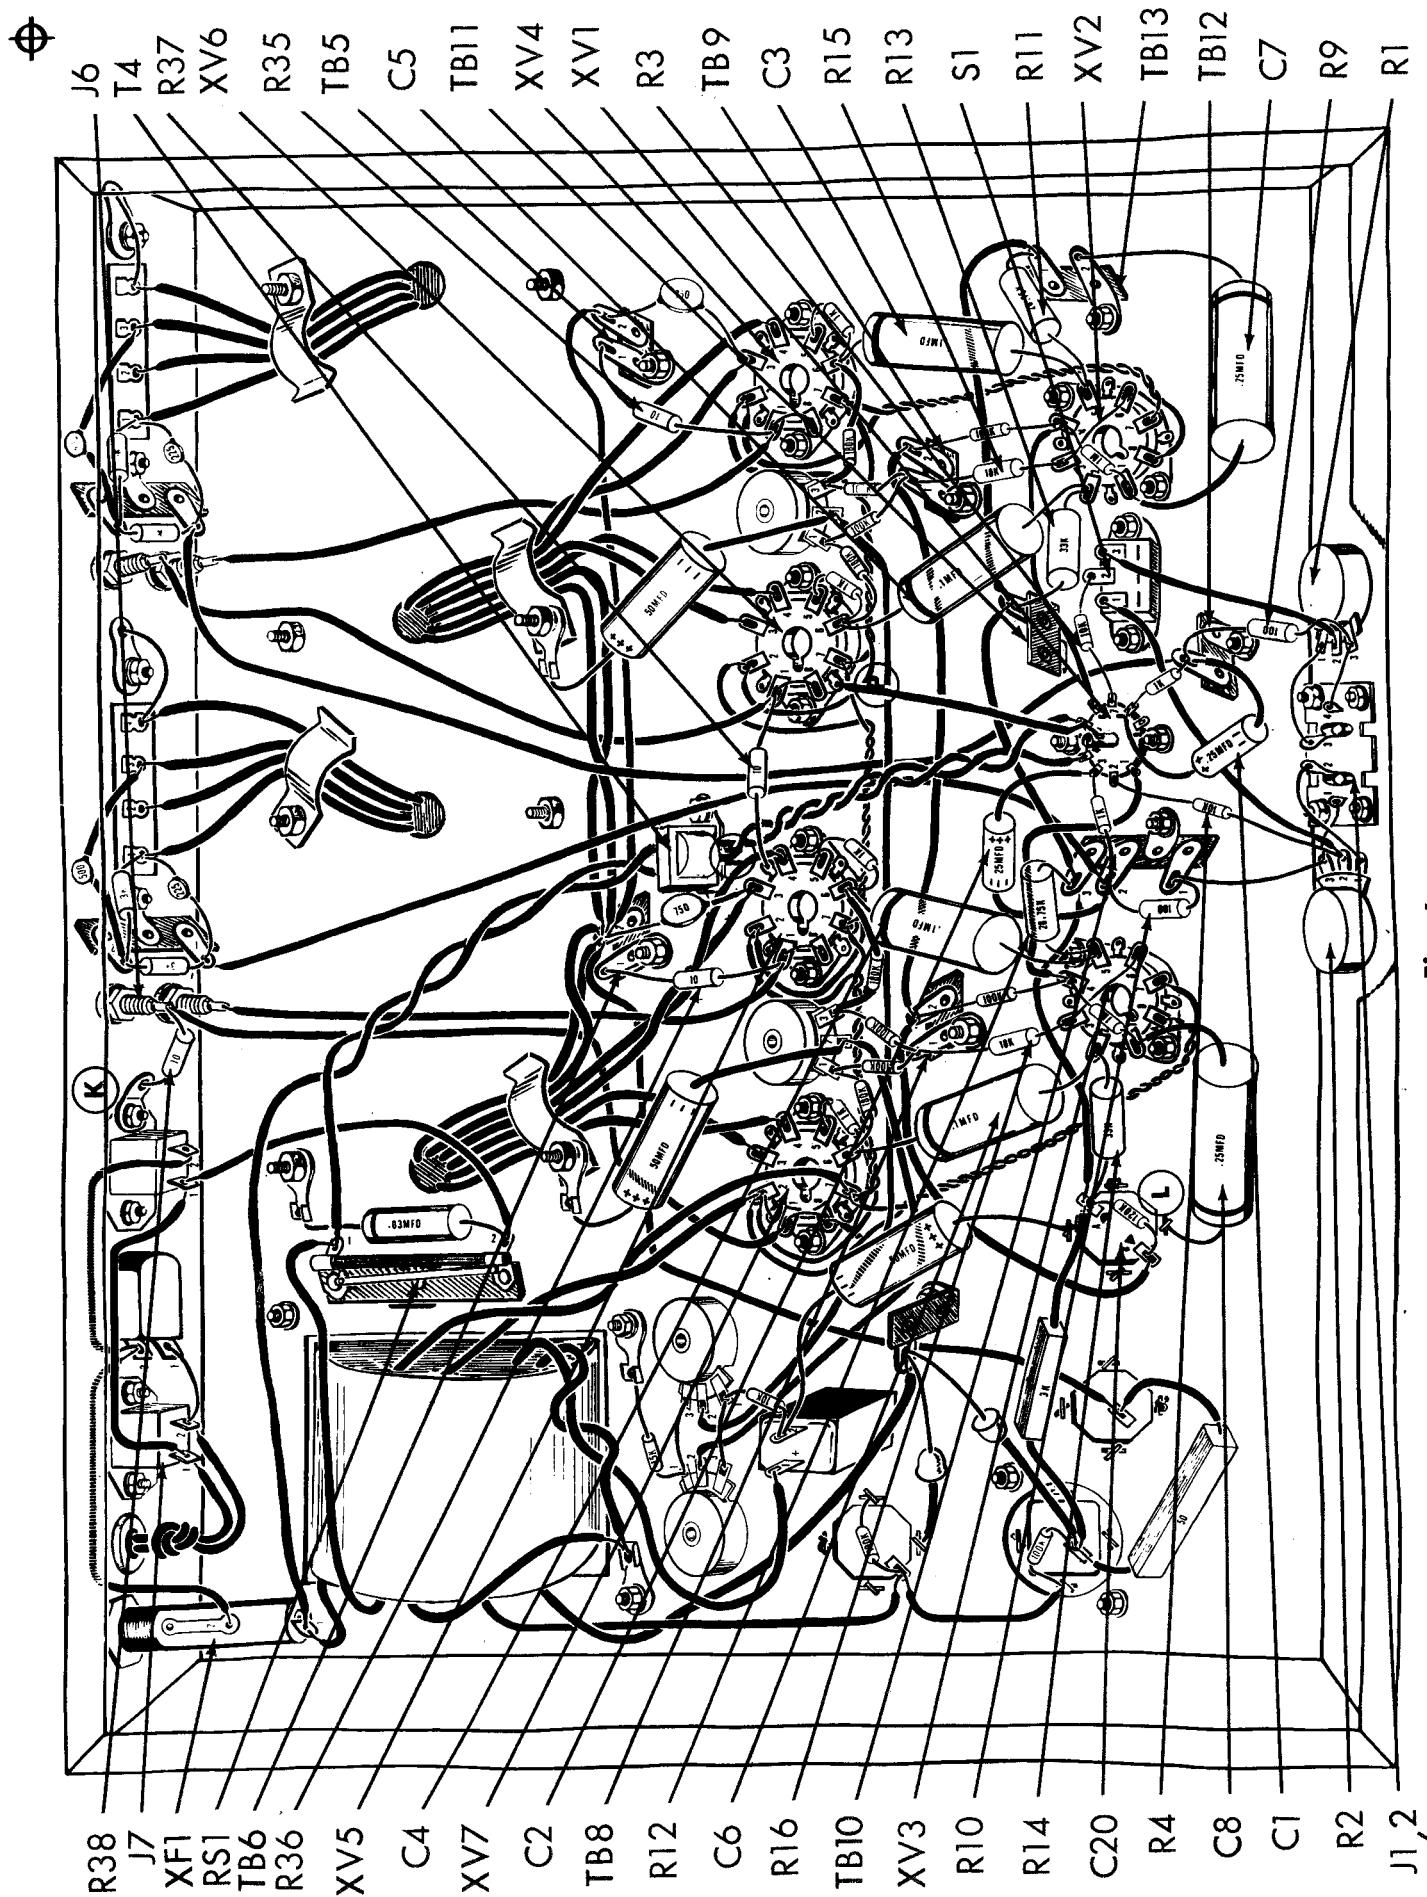

Fig. 6
- ( ) 15. Fig. 6. Cut all leads on two 28.75K (red, grey, gold) 5%, 1 watt resistors, R11 and R12, to 1/2". Connect R11 from TB13-1 (S2) to XV2-5 (C). Connect R12 from XV3-5 (C) to TB10-3 (S3).
- ( ) 16. Fig. 6. Cut all leads on two 33K (orange, orange, gold) 5%, 1 watt resistors, R13 and R14, to 3/4". Connect R13 from XV2-2 (C) to TB11 (S3). Connect R14 from XV3-2 (C) to C20-A (S4).
- ( ) 17. Fig. 6. Cut all leads on four .1mfd (brown, black, yellow, white, blue) molded capacitors, C3, C4, C5, and C6, to 1". Connect C3 from XV2-5 (S2) to XV4-6 (S3). Connect C5 from XV2-2 (S2) to XV6-6 (S3). Connect C4 from XV3-5 (S2) to XV5-6 (S3). Connect C6 from XV3-2 (S2) to XV7-6 (S3).
- ( ) 18. Fig. 6. Cut both leads on the 100, 1 watt, 1% resistor, R38 to 3/4". Connect from J6 (S2) to ground lug "K" (S1).
- ( ) 19. Fig. 6. Cut all leads on three 100, 1 watt, 1% resistors, R35, R36 and R37 to 3/4". Connect R35 from XV4-1 (S3) to TB5-1 (S1). Connect R37 from XV6-1 (S3) to ground lug "N" (S1) at XV5. Connect R36 from XV5-1 (S3) to TB6-1 (S1).
- ( ) 21. Connect a 3" piece of yellow wire from the center post (S1) on XV1, through XV1-5 (C) to ground lug "p" (S1) on XV6.
- ( ) 24. Fig. 6. Push the end of the line cord with tinned leads through the rubber grommet at the rear of the chassis. Tie a knot in the line cord 2" from the tinned ends. This knot is to be tied inside the chassis so that the line cord cannot pull through the grommet. Connect one of the tinned leads to J7-2 (S2) and the remaining tinned lead to J7-1 (S2).
- ( ) 1. Fig. 6. Connect a 1 1/4" piece of bare wire from R2-3 (C) to TB10-1 (C).
- ( ) 2. Fig. 6. Connect a 1 1/4" piece of bare wire from J1, 2-1 (S1) to R2-3 (S2).
- ( ) 3. Fig. 6. Connect a 1 1/2" piece of bare wire from J1, 2-2 (S1) to R2-1 (S1).
- ( ) 4. Fig. 6. Connect a 1 1/4" piece of bare wire from J1, 2-4 (S1) to R1-3 (C).
- ( ) 5. Fig. 6. Connect a 1 1/4" piece of bare wire from J1, 2-3 (S1) to R1-1 (S1).
- ( ) 6. Fig. 6. Connect a 3" piece of green wire from R1-2 (S1) to S1-3 (S1).
- ( ) 7. Fig. 6. Connect a 4" piece of green wire from R2-2 (C) to S1-1 (S1).
- ( ) 8. Fig. 6. Cut both leads on a 25mfd 6 volt electrolytic capacitor, C1, to 1". Cover each lead with a 3/4" piece of spaghetti. Connect the positive lead to XV1-8 (S2) and the negative lead to TB12 (C).
- ( ) 9. Fig. 6. On the other 25mfd 6 volt electrolytic capacitor C2, cut the positive lead to 3/4". Cover this lead with a 1/2" piece of spaghetti and connect to XV1-3 (S2). Cut the remaining lead to 1 1/4" and cover it with a 1" piece of spaghetti. Connect this lead to TB10-2 (C).
- ( ) 10. Fig. 6. Cut all leads on two 100K (brown, black, brown, gold) 5% resistors, R9 and R10, to 1/2". Connect R9 from TB12 (S4) to R1-3 (S2). Connect R10 from TB10-1 (S2) to TB10-2 (S4).
- ( ) 11. Fig. 6. Cut one lead of the 10K (brown, black, orange, silver) resistor R3 to 1/2" and the remaining lead to 1". Connect the shorter lead to XV1-7 (S1) and the longer lead to S1-2 (S1).
- ( ) 12. Fig. 6. Cut one lead on the 10K (brown, black, orange, silver) resistor, R4, to 1/2" and the remaining lead to 1 1/4". Connect the shorter lead to XV1-2 (S1) and the longer lead to R2-2 (S2).
- ( ) 13. Fig. 6. Cut all leads on two .25 mfd (red, green, yellow, white, yellow) 400 volt molded capacitors, C7 and C8, to 1 1/4". Cover one lead of C7 with a 1" piece of spaghetti and connect to XV2-1 (S2). Connect the remaining lead to TB13-2 (S1). Cover one lead of C8 with a 1" piece of spaghetti and connect to XV3-1 (S2). Connect the remaining lead to ground lug "L" (S1), at C20.
- ( ) 14. Fig. 6. Cut all leads on two 18K (brown, grey, orange, gold) 5%, 1 watt resistors R15 and R16, to 3/4". Connect R15 from XV2-3 (S2) to TB9-1 (S3). Connect R16 from XV3-3 (S2) to TB8-1 (S3).